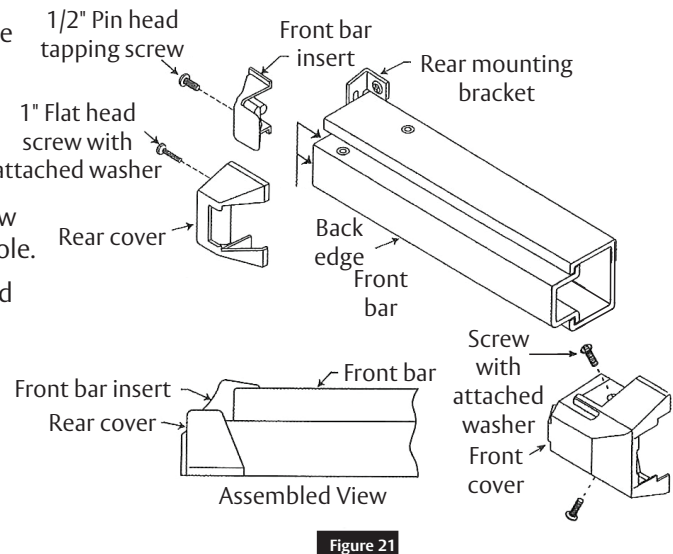

Figure 21
4. Install front and rear covers with a 1" flat head screw with attached washer. (Figure 21)